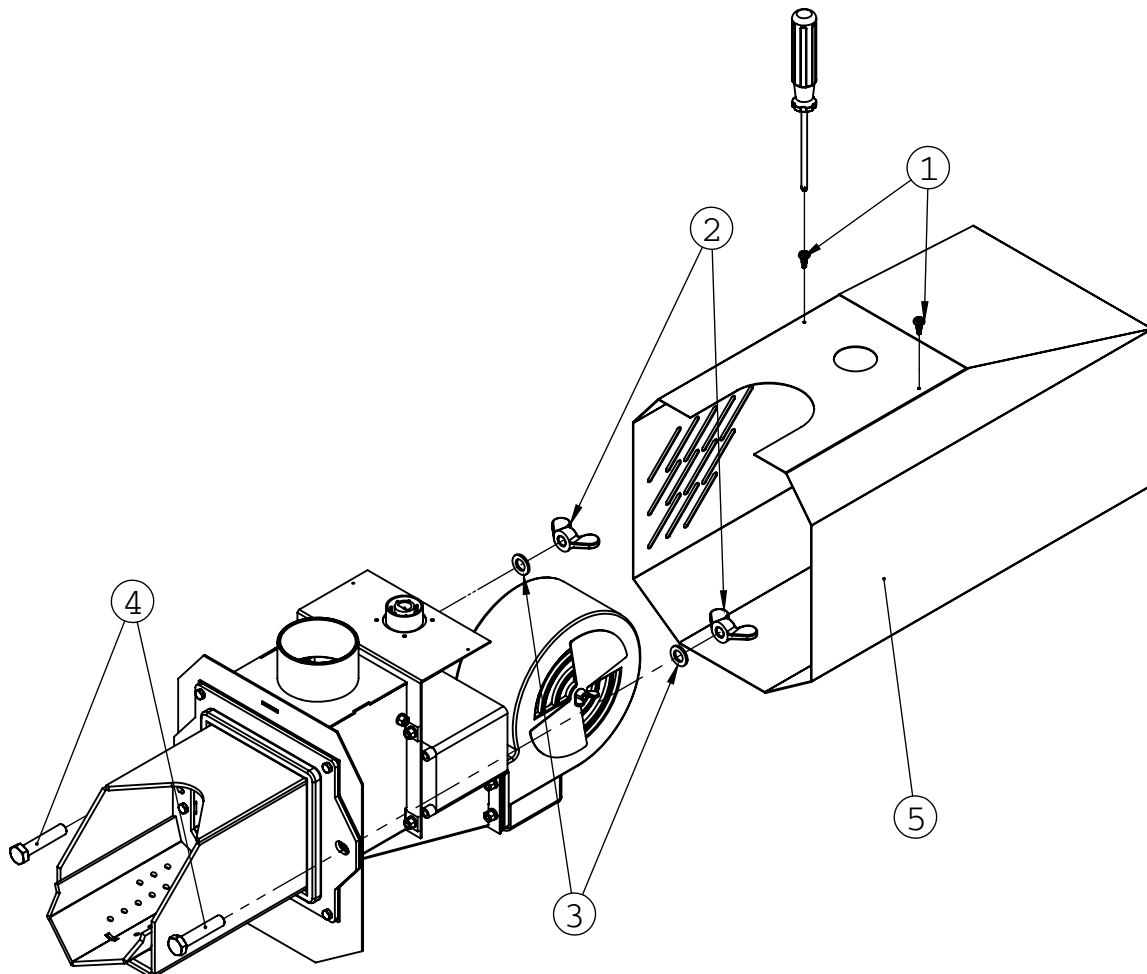
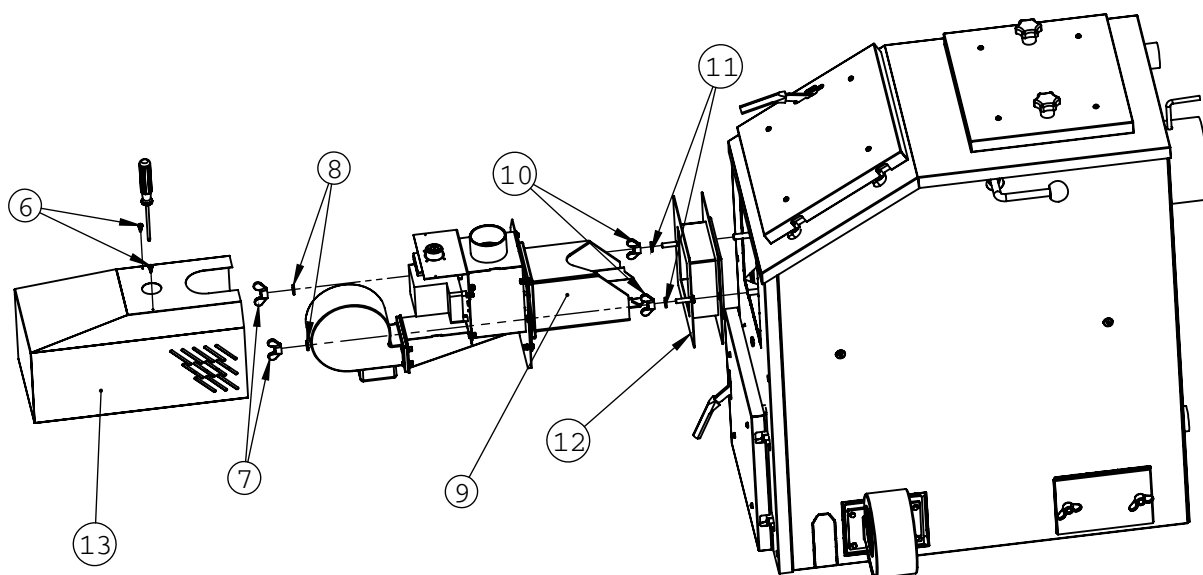

Fig. 12 Disassembly of Platinum Bio burner cover
Fig. 13 Installation of Platinum Bio burner.
1. Unscrew the two screws fastening the burner cover (Fig.12)
2. Remove the burner cover (5), unscrew the two wing nuts (2) and remove the two screws (4) with two washers (3).
3. Install the burner (9) in the adapter (12) screwing it with two wing nuts (10) with washers (11) (Fig.13). The adapter (12) with the burner (9) should be mounted in the boiler with two wing nuts (7) with washers (8).
4. Mount the burner cover (13) screwing it with screws (6)